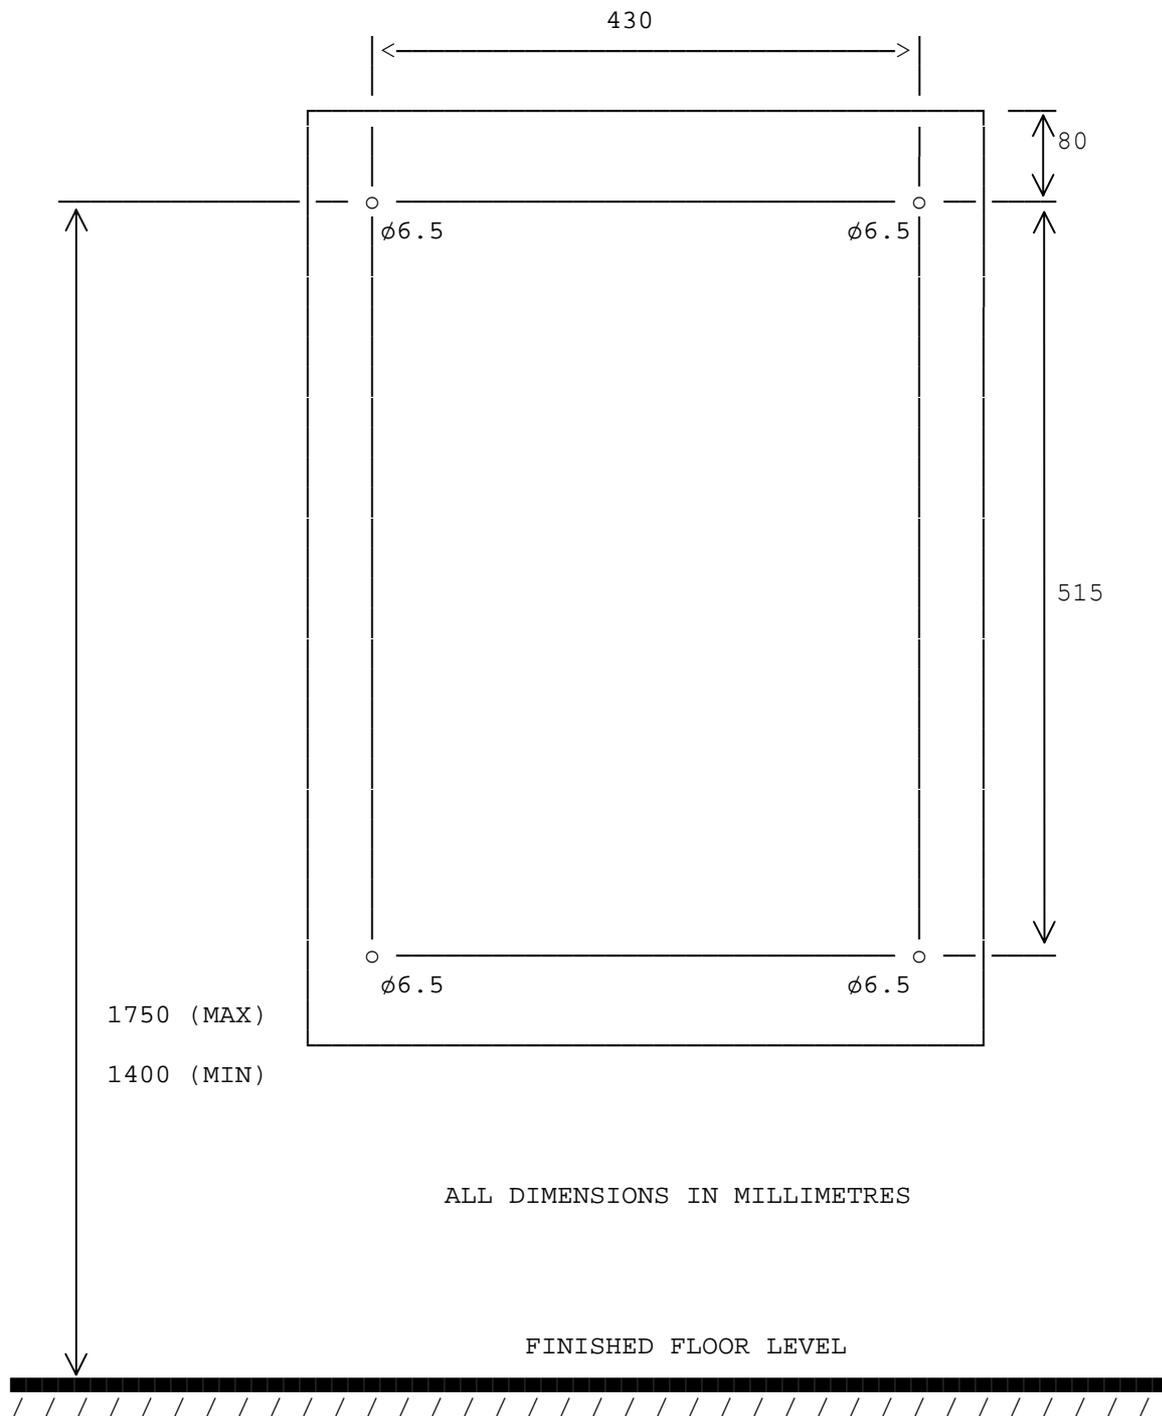

FIGURE 7.1.1
The cabinet is normally fixed to a wall with four 6 mm screws or bolts. The drilling details are shown in Figure 7.1.1 for the full size cabinet version FP0558 RDU and 7.1.2 for the slim line FP0559 RDU. Mounting details are shown in Figure 7.1.3 for the flush mounting version FP0772.
5. The LCD should be at average eye level and must not be higher than 1850 mm or lower than 750 mm above finished floor level. Refer Figures 7.1.1 & 7.1.2.